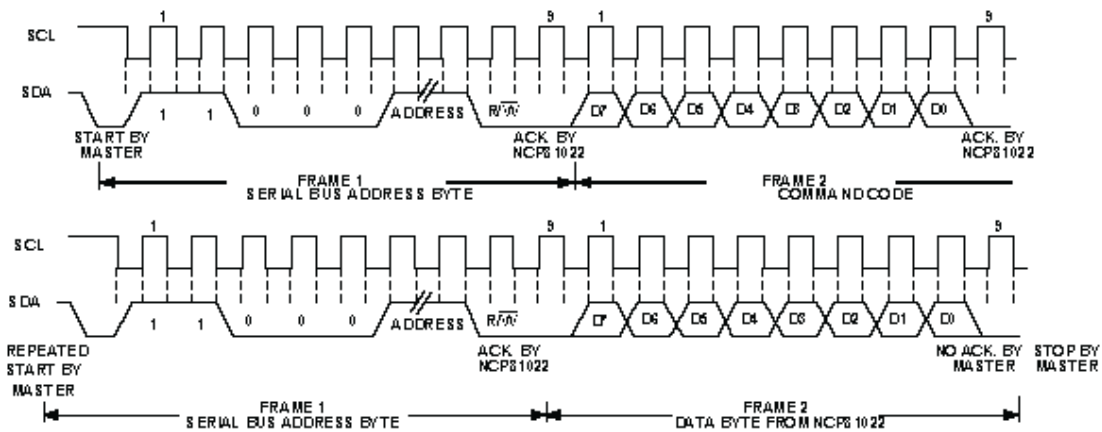

Figure 23. Read Byte
2. The read byte operation is shown in Figure 23. First the command code needs to be written to the NCP81022 so that the required data is sent back. This is done by performing a write to the NCP81022 as before, but only the data byte containing the register address is sent, because no data is written to the register. A repeated start is then issued and a read operation is then performed consisting of the serial bus address; R/\overline{W} bit set to 1, followed by the data byte read from the data register.